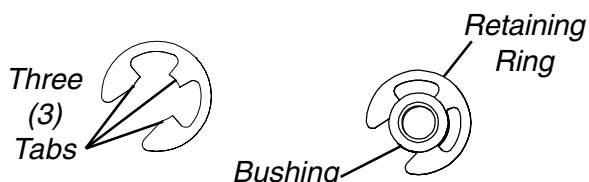

FIGURE 3 - REPLACING THE FOLDING MECHANISM
REPLACING THE FOLDING MECHANISM (FIGURE 3)
7. Install one (1) new retaining ring onto each outer bushing notch using a retaining ring insertion tool.
NOTE: Ensure all three (3) tabs on each retaining ring are completely inserted into the notch as shown in **DETAIL "A"** of **FIGURE 3**.